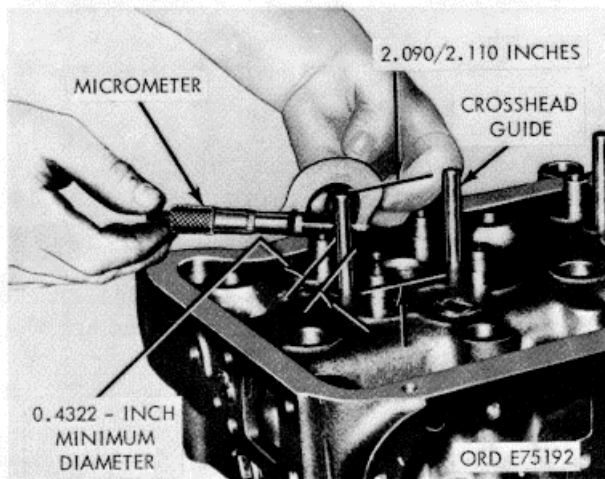
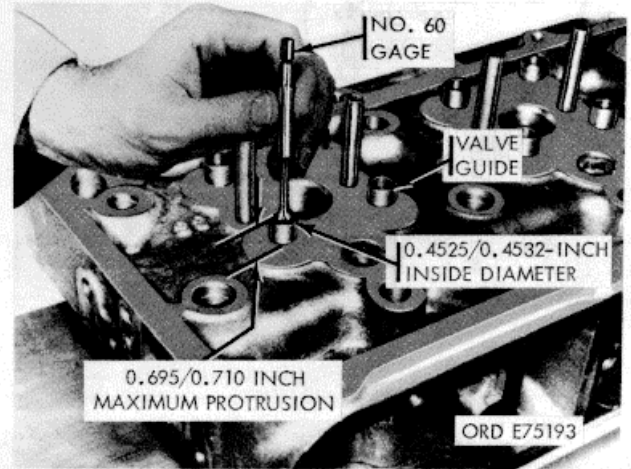

Figure 3-33. Crosshead guide cheek.
Figure 3-34. Valve guide check
f. Crosshead Guides (fig. 3-33).
(1) Check crosshead guides with a square. They must be perpendicular at four right angles with the cylinder head.
(2) Measure outside diameter of crosshead guides using a micrometer. Guides must measure 0.4322 inch minimum. Discard if worn beyond that limit.
(3) Measure crosshead protrusion above block to 2.090/2.110 inches. Discard guides not within these tolerances.
g. Valve Guides (fig. 3-34).
(1) Adjust a small bore gage with a micrometer at 0.0002 inch above worn limit, and use as "No-Go" gage.
(2) Measure the hole at several points crosswise and endwise of the head.
(3) Mark valve guide for replacement if worn larger than 0.4545 inch inside diameter.
(4) Inspect sharp edge of guides for chips, cracks and burrs. If damaged, mark for replacement.